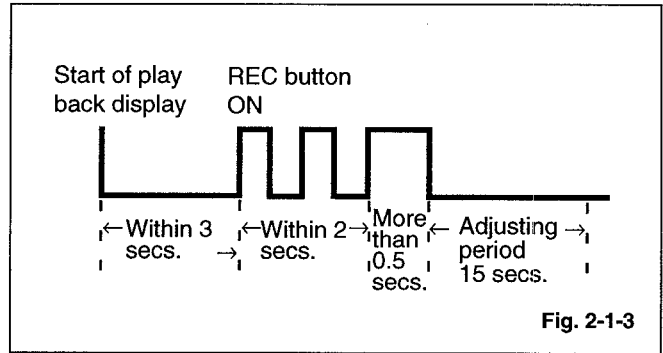

Fig. 2-1-3
1. At playback starts, press the REC button 3 times within 3 seconds after the playback picture comes out. However, these 3-push must be done within 2 seconds, and last push must be kept pressed for 0.5 seconds. (Fig. 2-1-3)